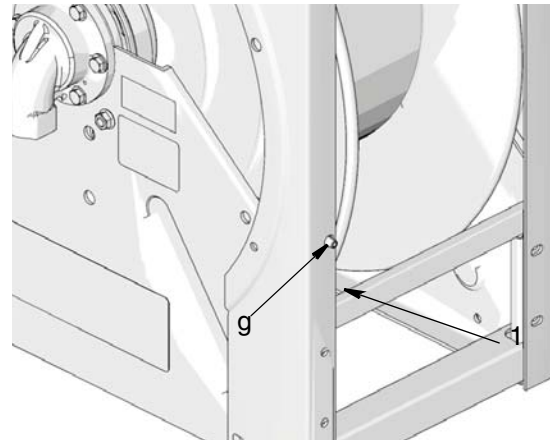

FIG. 6
4. Turn brake rod (g) (FIG. 6) to extend the end out of the reel frame. This is necessary to accommodate the added frame width after the bracket is installed.
5. Align support roller arm (1) over end of the brake rod (g) and hose reel frame as shown in FIG. 6.